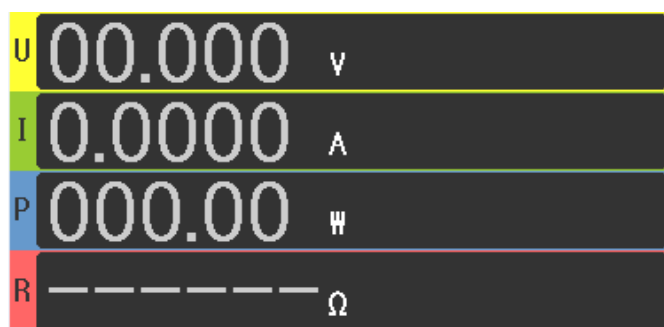

Figure 4-3
****U,I,P,R:** as shown in Figure 4-3, display voltage, current, power and resistance